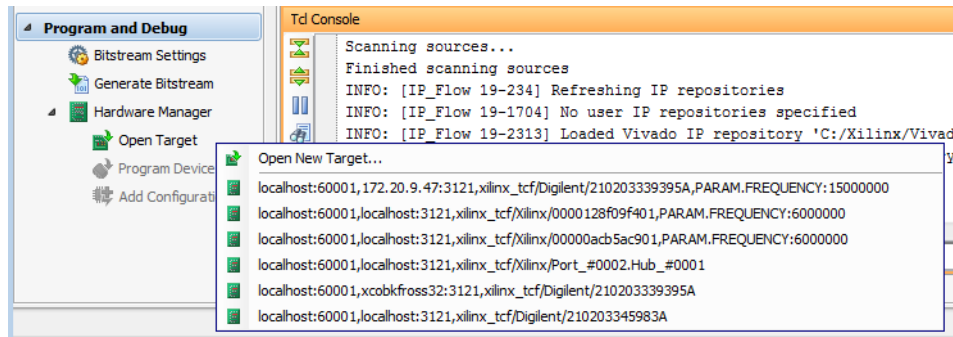

Figure 2-10: Using the Flow Navigator to Open a Hardware Target
- Use the **Open Target** selection under **Hardware Manager** in the **Program and Debug** section of the Vivado flow navigator to open new or recent hardware targets (see Figure 2-10).